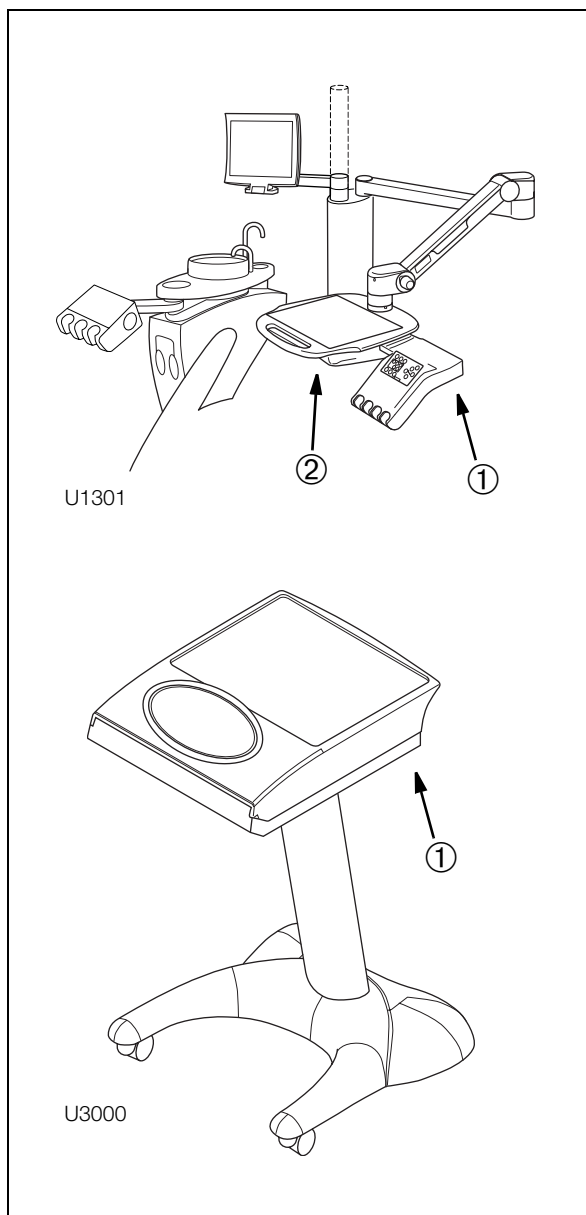

Fig. 4
Attached to the bottom of the unit body – see ① (Fig. 4) e.g. U1301. Nameplate for power supply unit (rating plate)
Attached to the front below the motor casing of the motorized chair ② (Fig. 4) or, if the power supply unit is free-standing, externally on the frontal area of the frame e.g. GL2020.